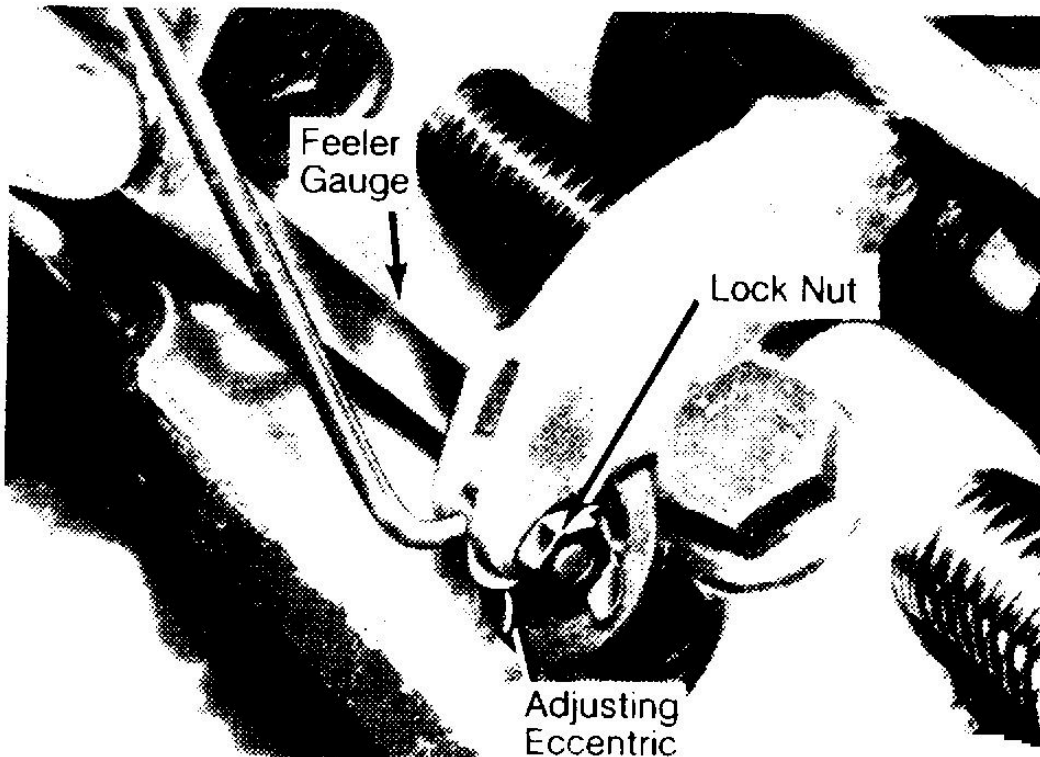

Fig. 1: Adjusting Valve Clearance
2. To adjust valve clearance, loosen nut of rocker eccentric and insert a rod in eccentric hole. Rotate eccentric until proper clearance is obtained, then tighten lock nut. See **Fig. 1**.